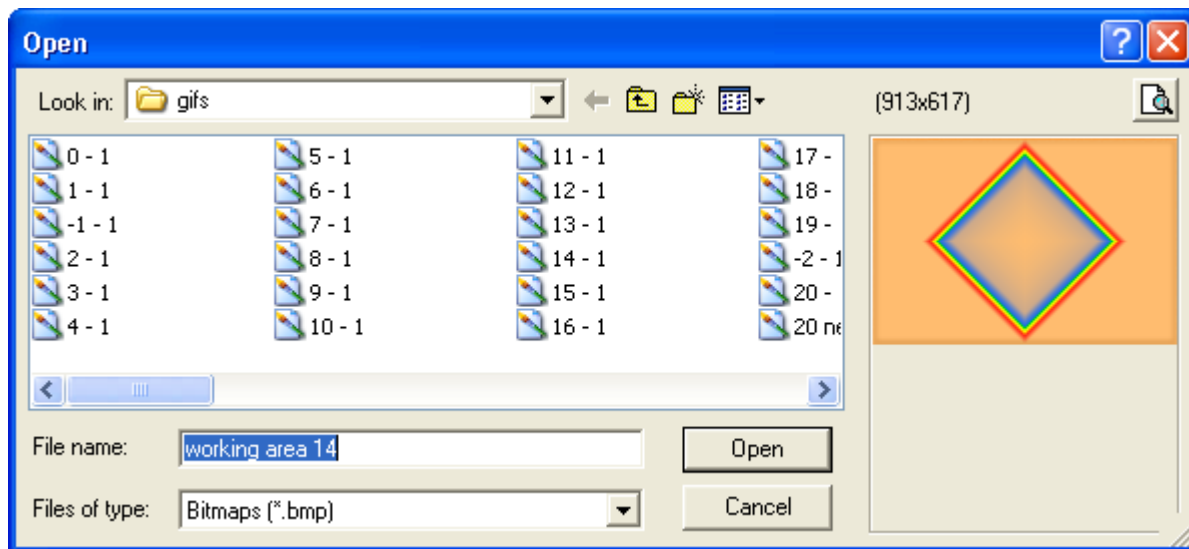

Figure 5.6 A box for change of the drawing type and colour
Step 2 - After you have fulfilled step 1, on the screen will appear a second box (Fig. 5.6), on which you can choose a drawing of a different tipe and colour. This is a typical box for search and open of files within the operatin system Windows. If the field **Look in** you can not see the folders **gifs**, you can reach it as you by pushing the arrow - located right the field. Click with the mouse once on [**N**:], than look for the folder **Infonav** - inside you will find the folred **gifs**. So you can choose already one of the files shown in the list.